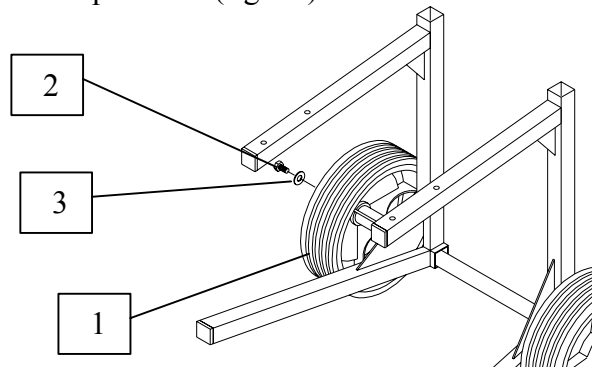

Fig.16
- 5 Once the axle has been fixed proceed and install the other wheel 1 using the relative screw 2 and washer 3 provided (fig. 16).